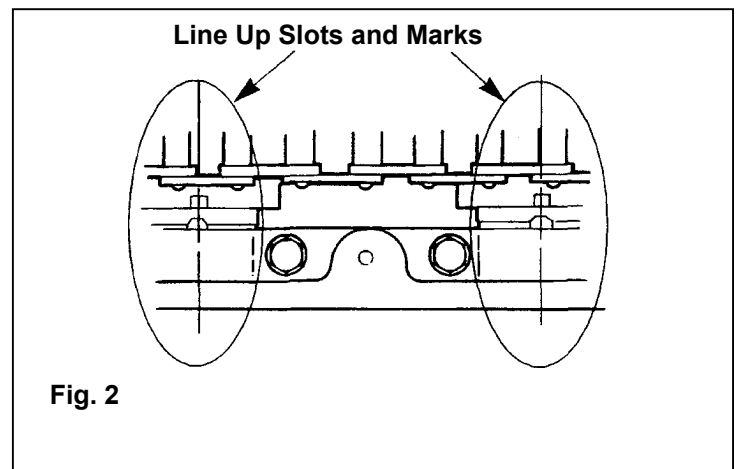

Fig. 2
1. Turn the crankshaft until the marks on the front cam cap align with the slots on the chain gear. No. 1 piston should be at TDC. Refer to Fig. 2